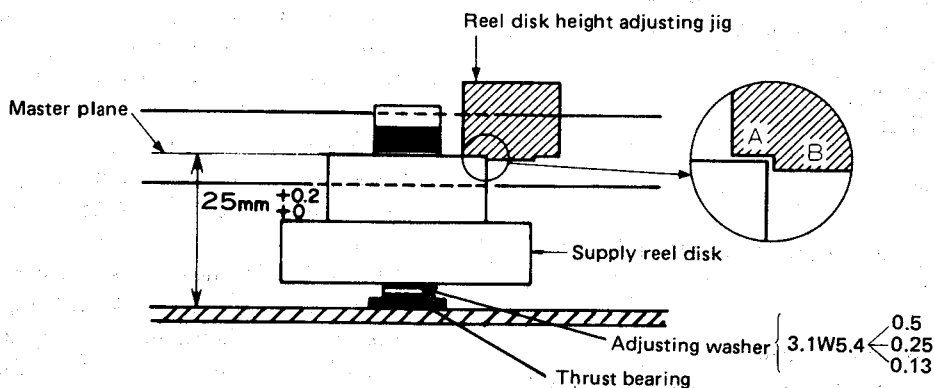

Figure 38.
1. Place the reel disk on the master plane and check that the height of the reel disk is lower than the part "A" but higher than the part "B" of Fig. 38, by using the reel disk height adjusting jig. If the height is not satisfied, correct it by using the height adjusting washer (this washer is available in three kinds (3.1W5.4-0.25), (3.1W5.4-0.5) and (3.1W5.4-0.13). The looseness in up-and-down direction shall be within 0.1 to 0.5 mm.